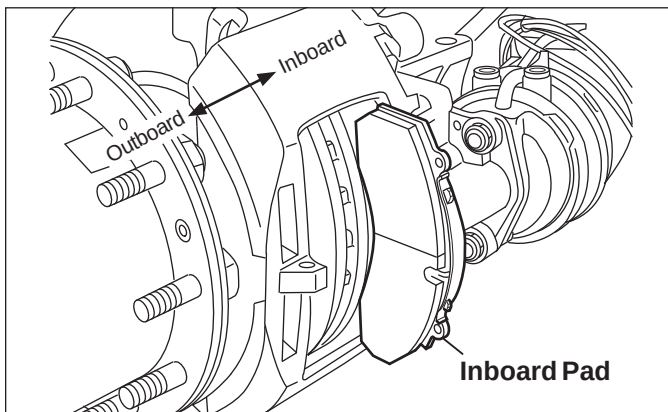

FIGURE 38 - PAD REMOVAL
5.2.9 See Figure 38. Move the caliper fully inward and remove the inboard pad, then move the caliper fully outward and remove the outboard pad.